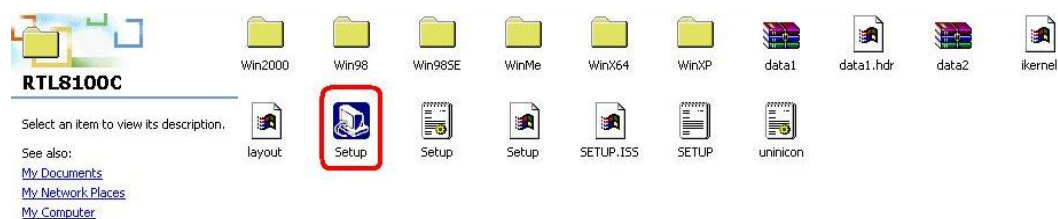

Figure 7-20: Locate the Setup Program Icon
**Step 3:** Locate the **Setup** program icon (**Figure 7-20**).
**Step 4:** Double click the **Setup** program icon in **Figure 7-20**.